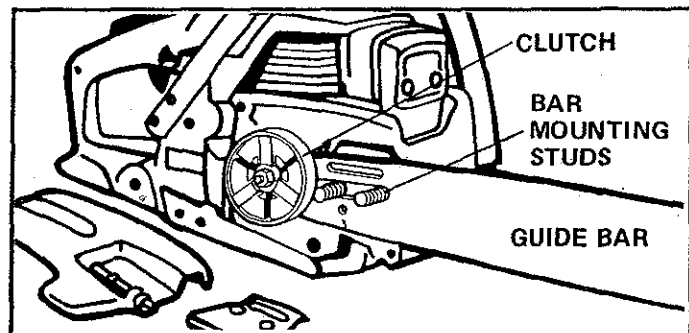

Figure 10
2. Mount the Guide Bar with the slotted end over the bar mounting studs. Figure 10 .